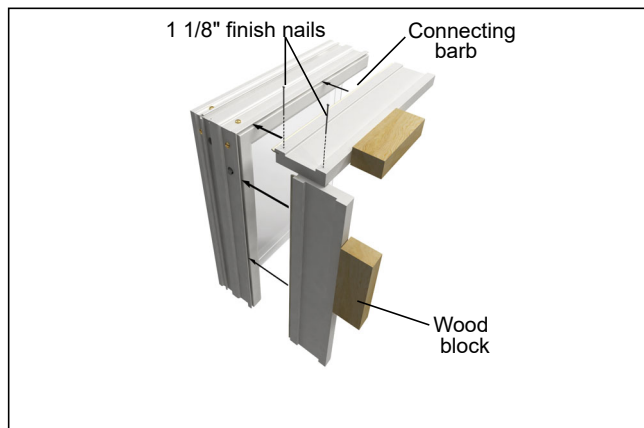

Figure 2
3. Use the finish nail gun to place two fasteners at each corner for 4 9/16" (116) extension or place three fasteners for 6 9/16" (167) extension. See figure 2.